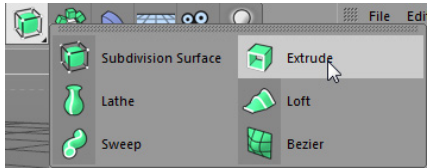
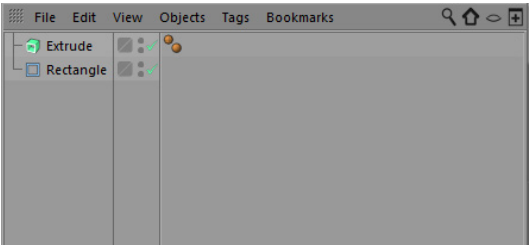

Figure 2-7 Choosing **Extrude** from the flyout
Figure 2-8 **Extrude** added to the Object Manager
3. Press and hold the left mouse button on the **Subdivision Surface** tool in the Command Palette; a flyout is displayed. Next, choose the **Extrude** tool from it, as shown in Figure 2-7; **Extrude** is added to the Object Manager, refer to Figure 2-8.